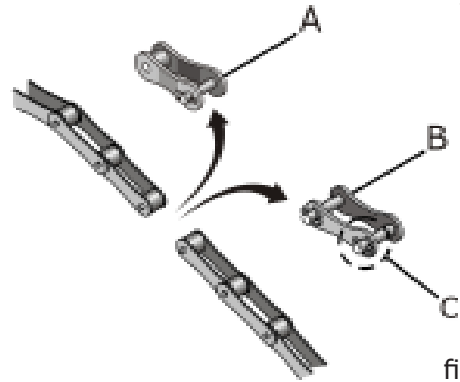

fig. 26
The transmission chains leave the factory pre-adjusted in accordance with the distance between shafts of the cogwheels. If it should be necessary to maintain or repair joins (B) (fig. 26) or reductions (A), take out the cotter pin (C), removing the number of separate links, reductions or joins.